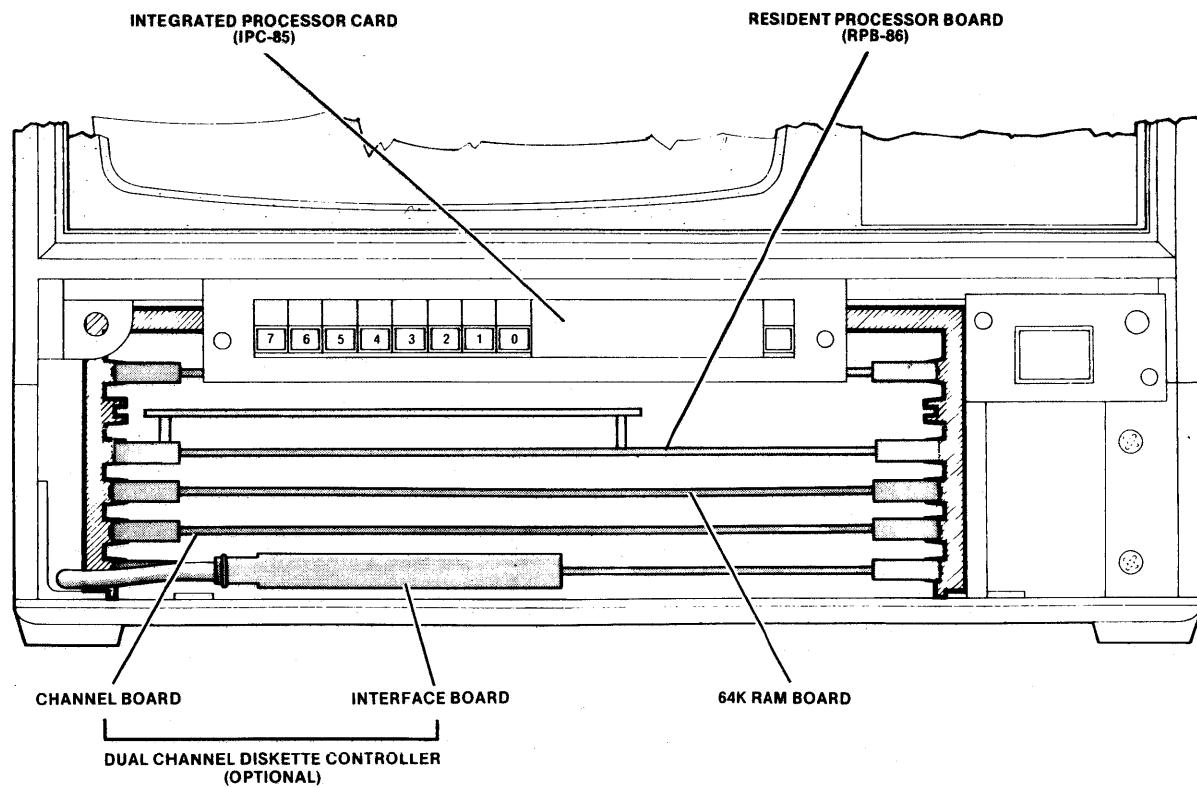

Figure 2-5. Mainframe Cardcage Configuration
Figure 2-5 shows the mainframe cardcage configuration when the system does not include an optional expansion chassis. Figure 2-6 shows the mainframe /expansion chassis cardcage configuration when an expansion chassis is installed.
- j. Install RPB-86 board in the two adjacent slots directly below IPC-85 board. (Refer to figure 2-5)